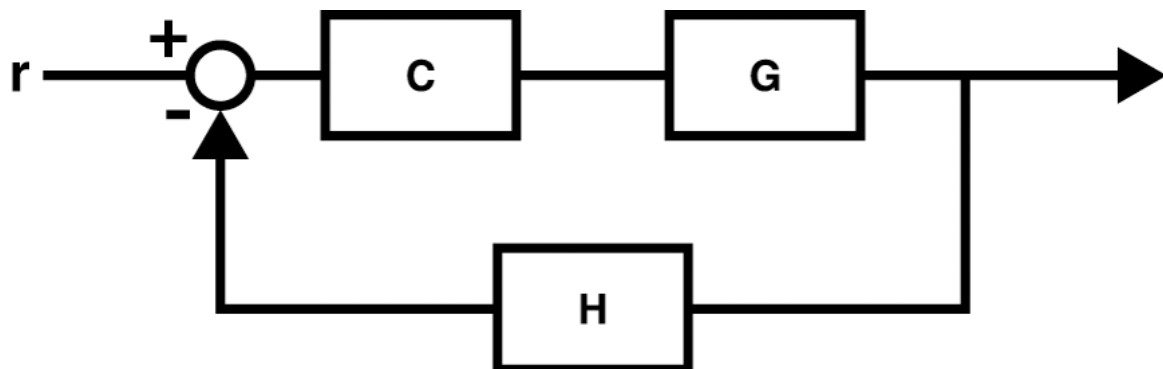

Figure 1. A single-input single-output system closed loop system [2]
A system may be composed of many components grouped in a variety of ways; nevertheless, we will begin by examining the components and functions of a traditional closed-loop system (Figure 1) [2].
5. Feedback:  $H$  - The feedback line in a system's equivalent block diagram (see Figure 1) introduces the system's output into the input. The error of the system is thus equal to: input - output  $\times H$ ; if the system has unitary feedback (meaning that  $H = 1$ ), then our error is just input minus output. This will be a crucial concept to know as we describe how each aspect of the PID controller operates.
It is crucial to notice that the closed loop transfer function may further simplify the transfer function for the whole loop in Figure 1 into just one block with a single input and single output: